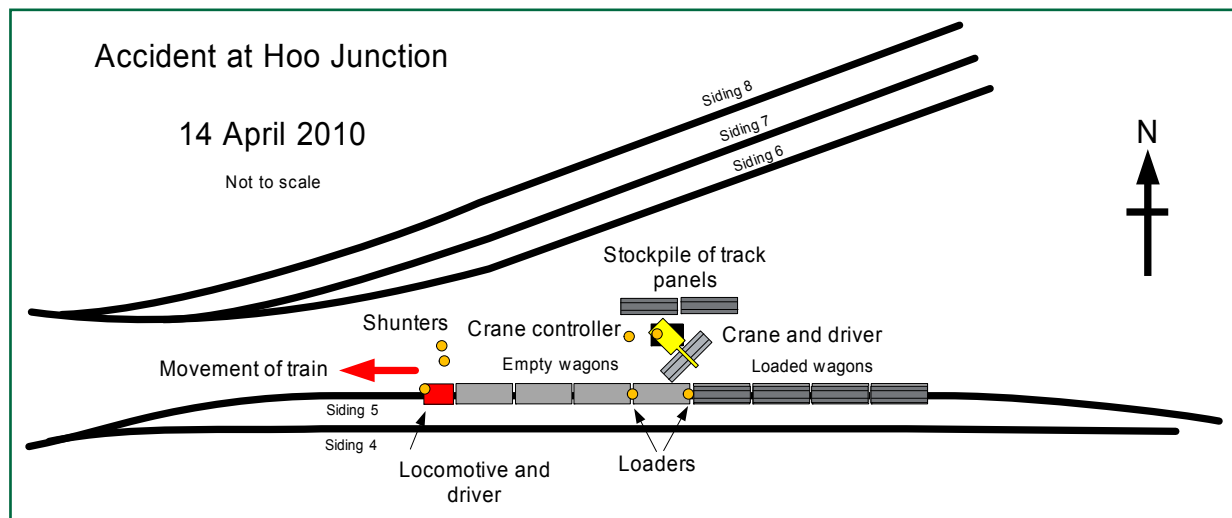

Figure 1: Position of train and people involved
- 3 By about 11:30 hrs, four wagons had been loaded with two panels on each. There was then a short break in the loading work while four additional empty wagons were placed in siding five by a class 08 shunting locomotive, and were coupled to the wagons that had been there all morning (figure 1).